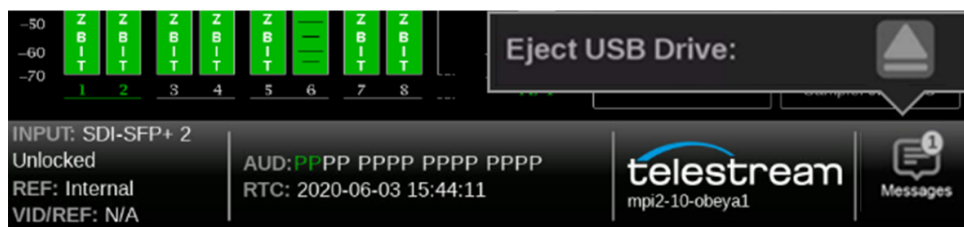

Figure 12: Message center popup window
2. Select the **Messages** icon to view the messages or devices mounted to the instrument. (See Figure 12.)